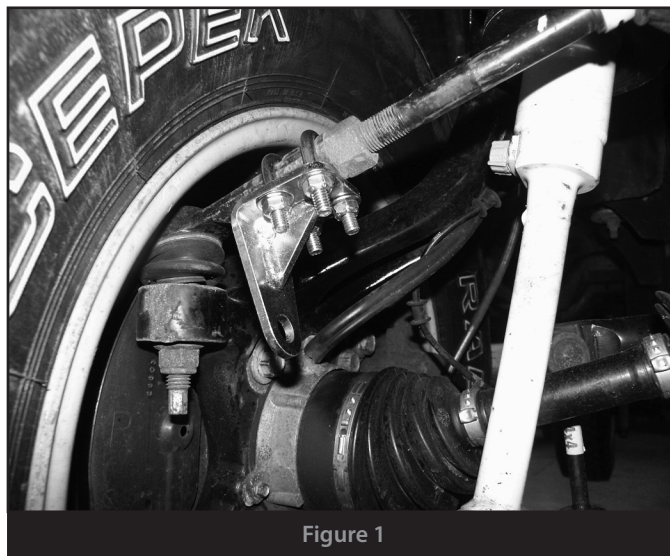

Figure 1
2. Install bracket as shown on tie rod end. Edge of bracket will be flush with edge of tie rod. Attach with 5/16" u-bolts. Tighten hardware to 17 ft-lbs. **Figure 1**